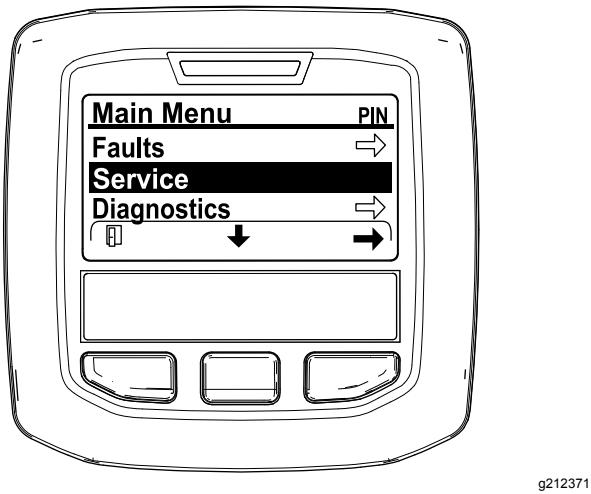

Figure 42
- Navigate to the MAIN MENU, press the center button to scroll down to the SERVICE MENU, and press the right button to select the SERVICE option (Figure 42).